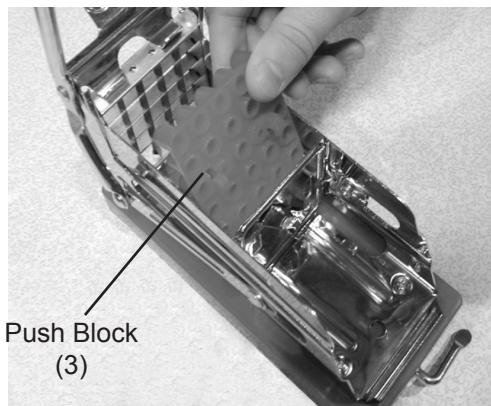

Figure 3
- Push the blade lock down over the Cutting Blade Frame (2), locking the Frame in place.
- Place the plastic Push Block (3), with the open side of Tabs facing down, onto the back end of the unit so that the tabs on the back of the Push Block fit through the holes on the end frame. See Figure 3, below.